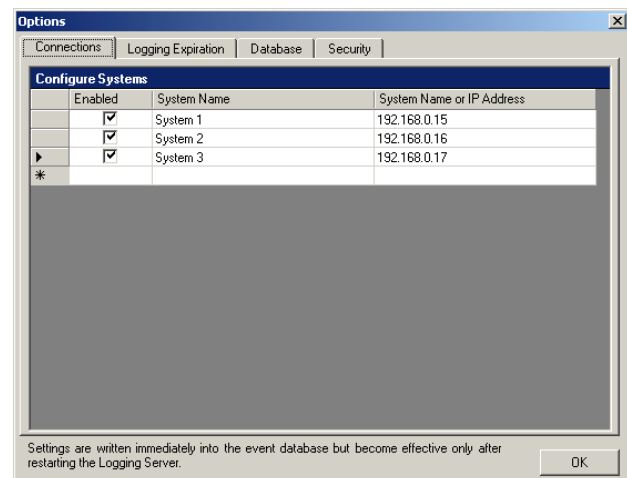

figure 49.10: Delete a system (2)
- 2 On the keyboard of the PC on which the *Logging Server* is running, press the *Del* key. The system is removed from the list (see figure 49.10 for an example).